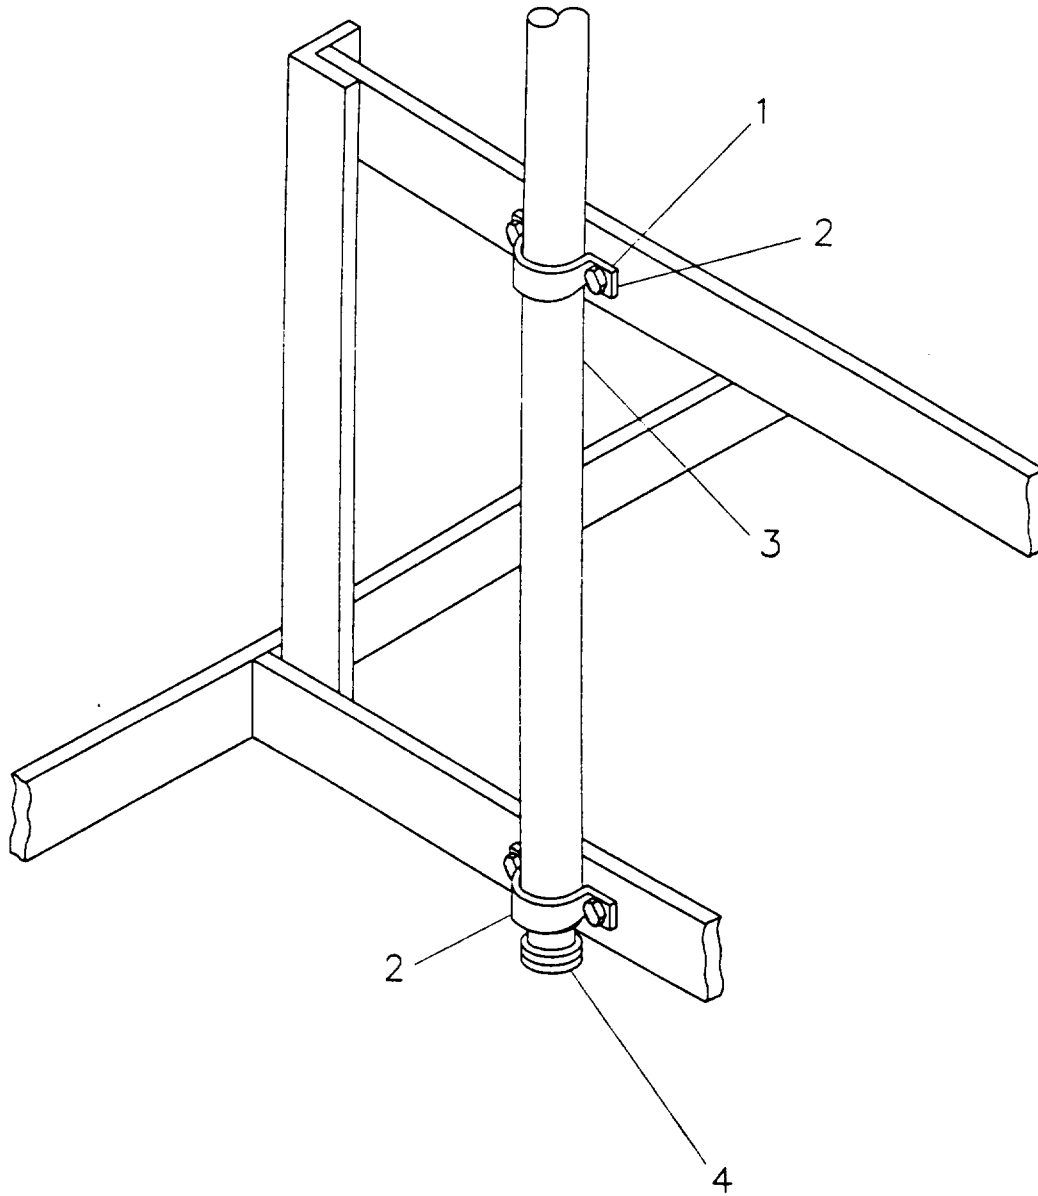

Figure 4-1. Hoist Winch Assembly Installation
**4-8 HOIST WINCH ASSEMBLY INSTALLATION. (Refer to Figure 4-1)**
**4-9 HOIST WINCH ASSEMBLY REPLACEMENT. (Refer to Figure 4-1)**